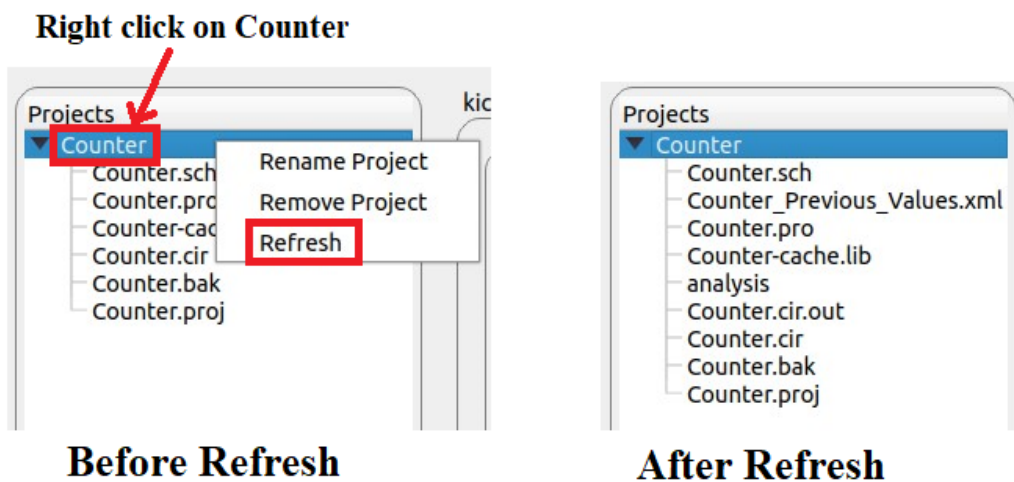

Figure 11.36: Cir.out file added after conversion
- Next, right click on **Counter** and click on **Refresh** as shown in Fig. 11.36. It can be seen that Project_Name.cir.out file (Note: In this example, project name is Counter, so the file name is Counter.cir.out) is added after pressing refresh. Repeat this step for every rerun of KiCad to Ngspice conversion.
- Close the simulations plots, and right click on **Counter** button and click on **Refresh** button as shown in Fig. 11.36 to update the plot data files in the Projects folder.